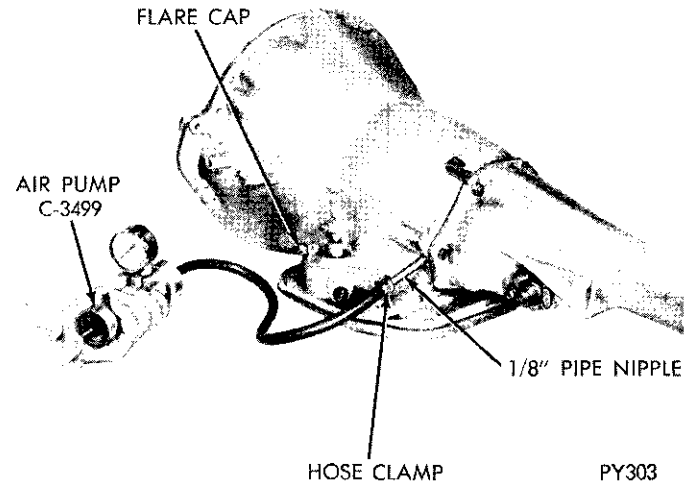

Fig. 5—Pressurizing Transmission
(4) Attach and clamp hose from nozzle of Tool C-3499 to pipe nipple, which is in rear cooler line fitting position in case (Fig. 5).
(5) Pressurize the transmission using Tool C-3499, until the pressure gage reads 8 psi. Position transmission so that pump housing and case front may be covered with soapy solution or water. Leaks are sometimes caused by porosity in the case or pump housing. **CAUTION:** Do not, under any circumstances, pressurize a transmission to more than 10 psi.